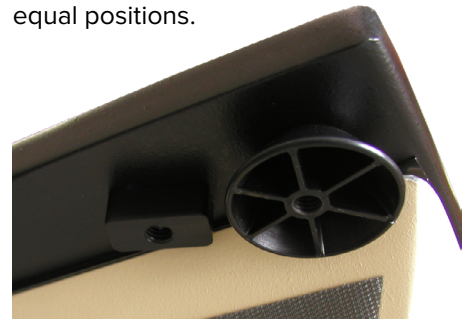

Fig. 41
4. Rotate the eccentrics until the CT Overlay holds the CT cradle firmly centered and also slides on/off the CT cradle (Fig. 41).